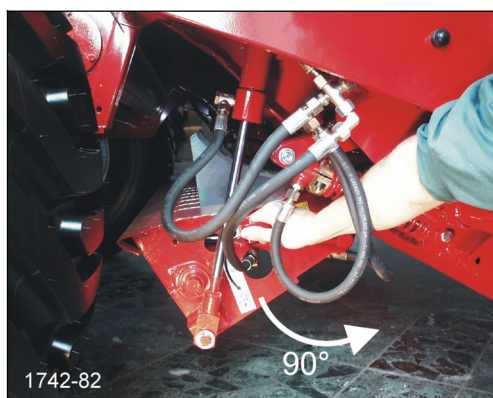

Figure 71
- ☐ Lower HYDROFLEXCONTROL-bottom door\* for at least the half way (Figure 71).
- ☐ Swivel lever of the knife axle on the feeder housing (on the right in driving direction) down through about 90° as far as the stop (Figure 71).